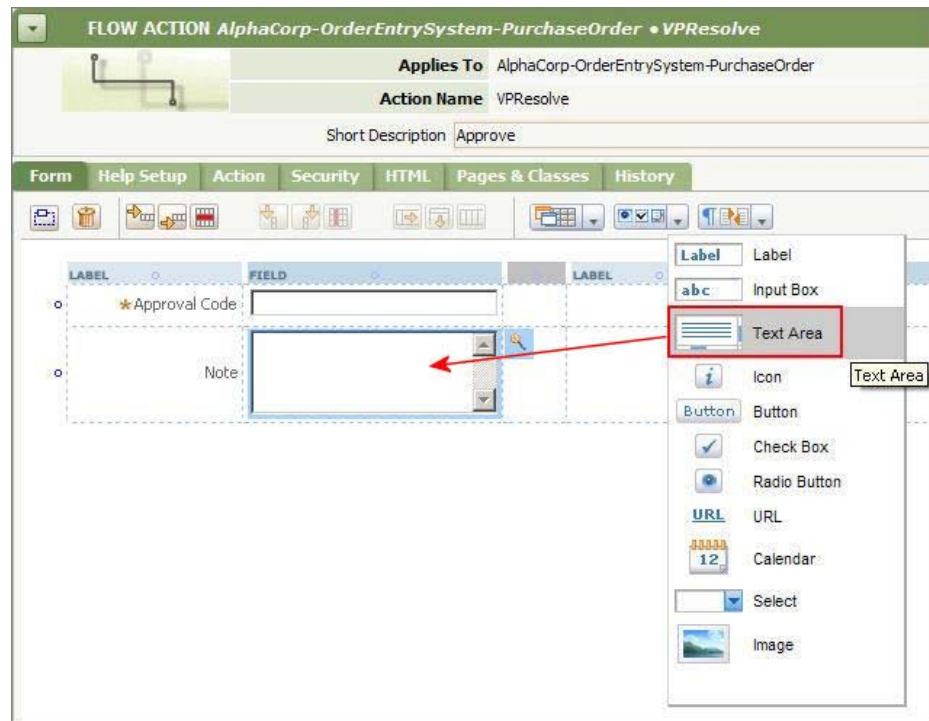

Figure 4-9. Add the Text Area Field
- j. From the Basic control group, drag a Text Area item to the right cell in the second row Field as shown in Figure 4-9.